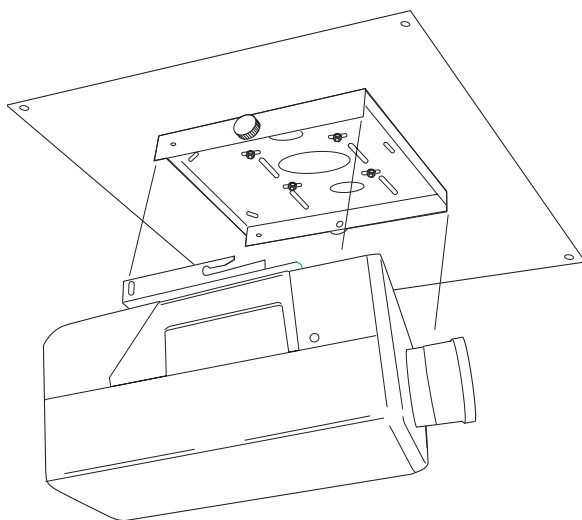

FIGURE 5
- 2 Make sure your cables are pulled through the center hole of the base box, then carefully lift the projector and turn it upside down so the mounting plate faces the ceiling (Figure 5).